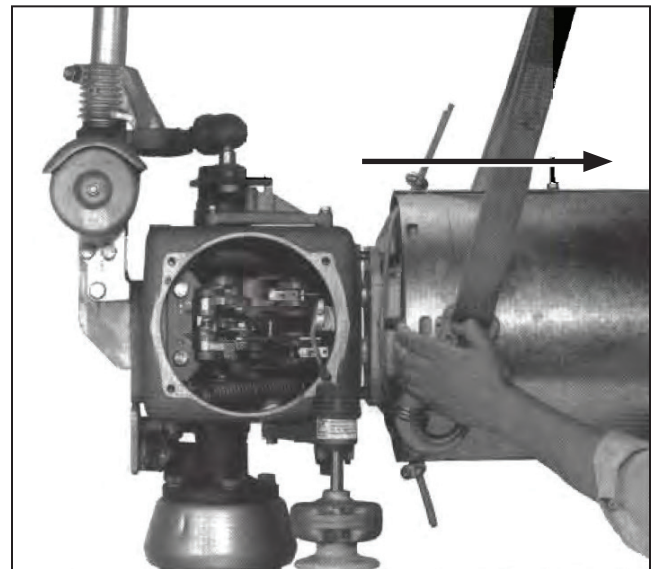

Figure 10. Separating the interrupter from the brain.
- STEP 9.** With a moderate strain on the lifting slings, carefully slide the interrupter away from the brain. See Figure 10. As the unit is lowered, use care to avoid damaging the exposed operating rods.
- STEP 3.** Align the interrupter with the brain. This is the reverse of the procedure shown in Figure 10 on page 13. Carefully guide the operating-rod ends into the clevises of the actuating arms in the brain and, at the same time, guide the interrupter flange holes over the fastening studs in the brain.